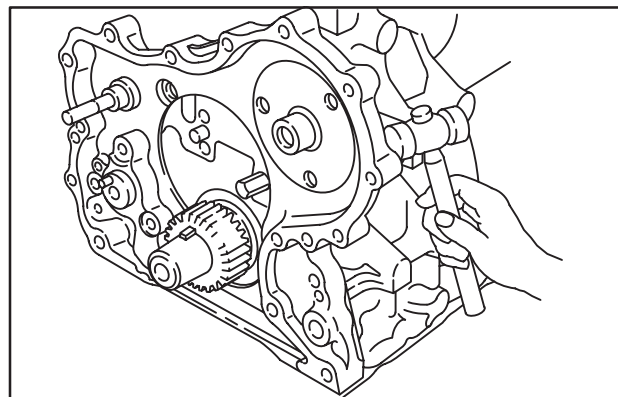

Fig. 10 – Removing Timing Gear Case
2. Remove timing gear case and discard gasket, Fig. 10.